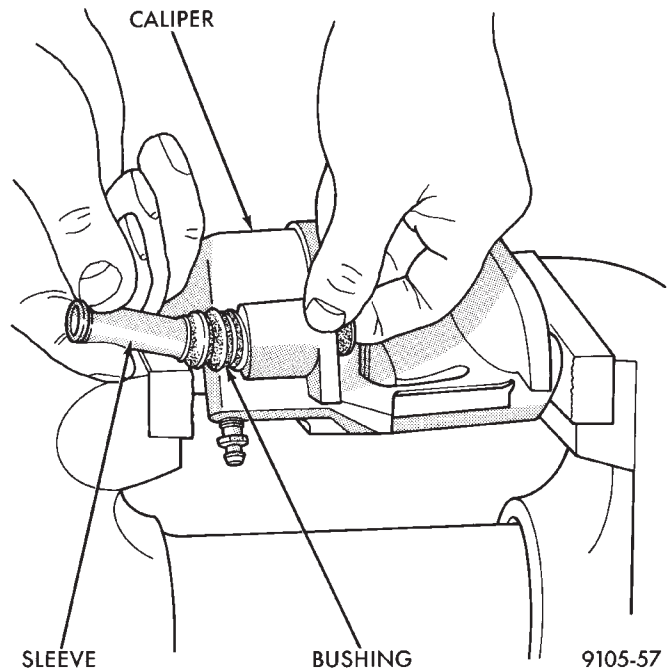

Fig. 159 Removing Inner Sleeve From Bushing
(1) Remove caliper from brake rotor (See Brake Shoe Removal). Hang caliper assembly on a wire hook away from the brake rotor.
(2) Push out and then pull the steel sleeve from the inside of the bushing using your fingers as shown in (Fig. 159).